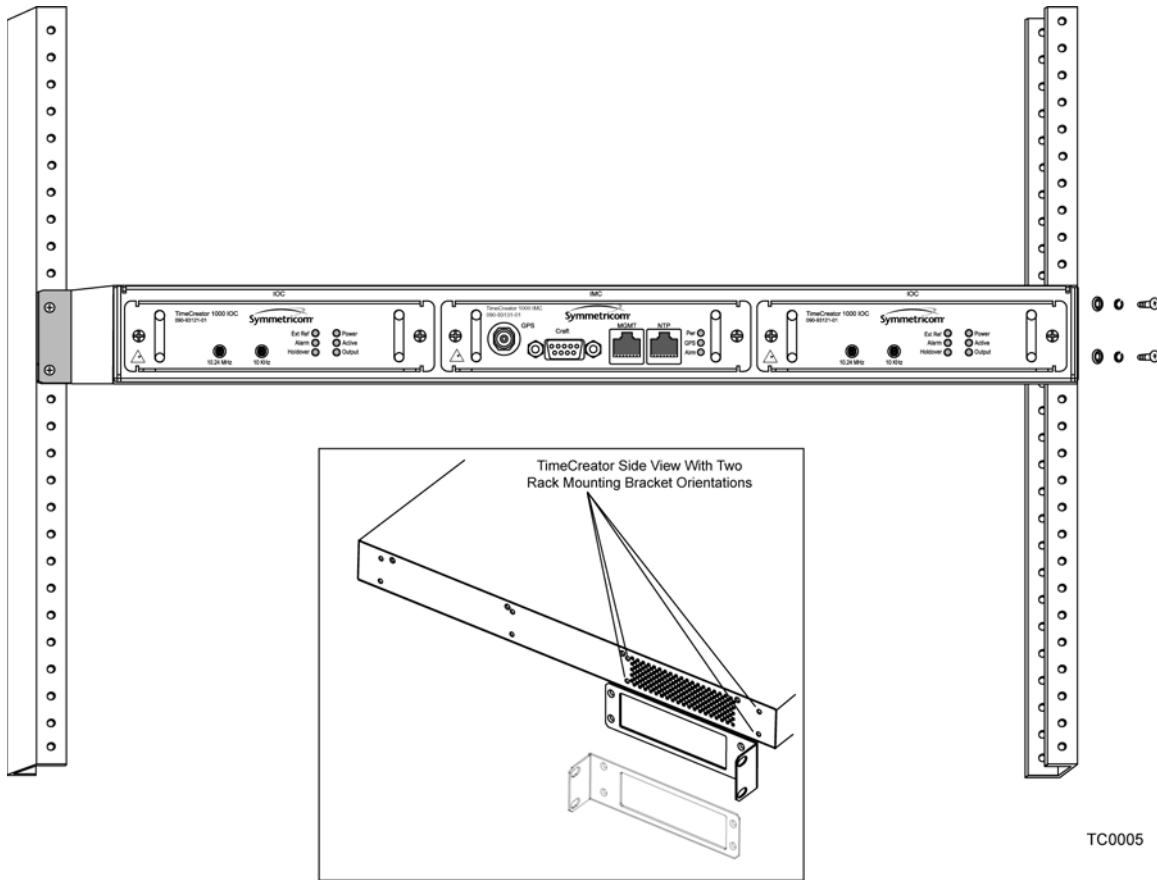

Figure 3-1. Installing the TimeCreator 1000
1. If necessary, attach the rack mounting brackets to the shelf using 6-32 x 1/4-inch screws. Ensure that the mounting brackets on both sides are attached at equal distances from the front of the unit (see Figure 3-1).